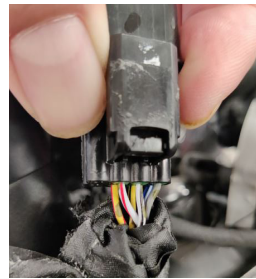

figure 35
37. Moving on to the 2 black connectors, remove the tape surrounding them. Peel back just enough tape to expose the color of the wires (figure 35 & 36). Disconnect the connectors.